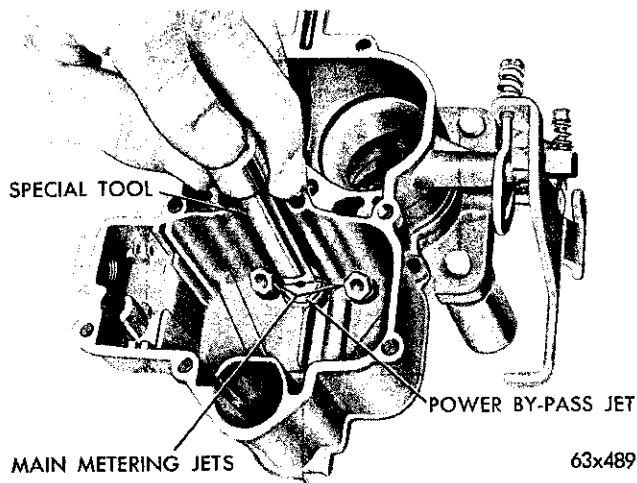

Fig. 7—Removing the Power By-Pass Jet
(5) Using Tool 73598, remove the power by-pass jet and gaskets, as shown in Figure 7.
(3) Install the power by-pass jet and new gasket. Tighten securely, using Tool 73598 (Fig. 7).